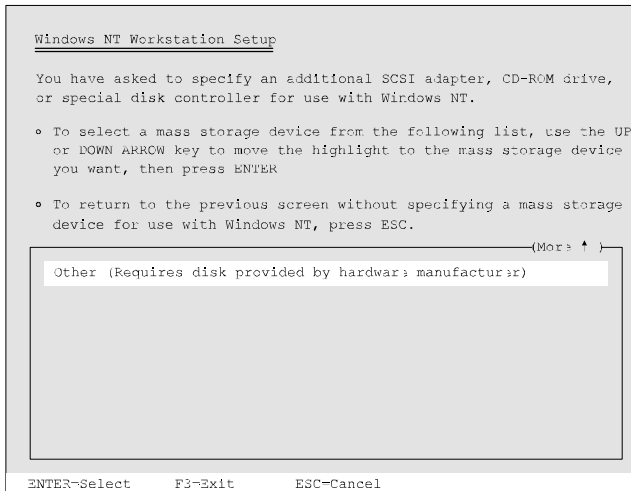

figure 7-2 Select “Other” from list of options
5. Scroll down the list and select “**OTHER (Requires Disk Provided by a Hardware Manufacturer)**”, figure 7-2, from the list of